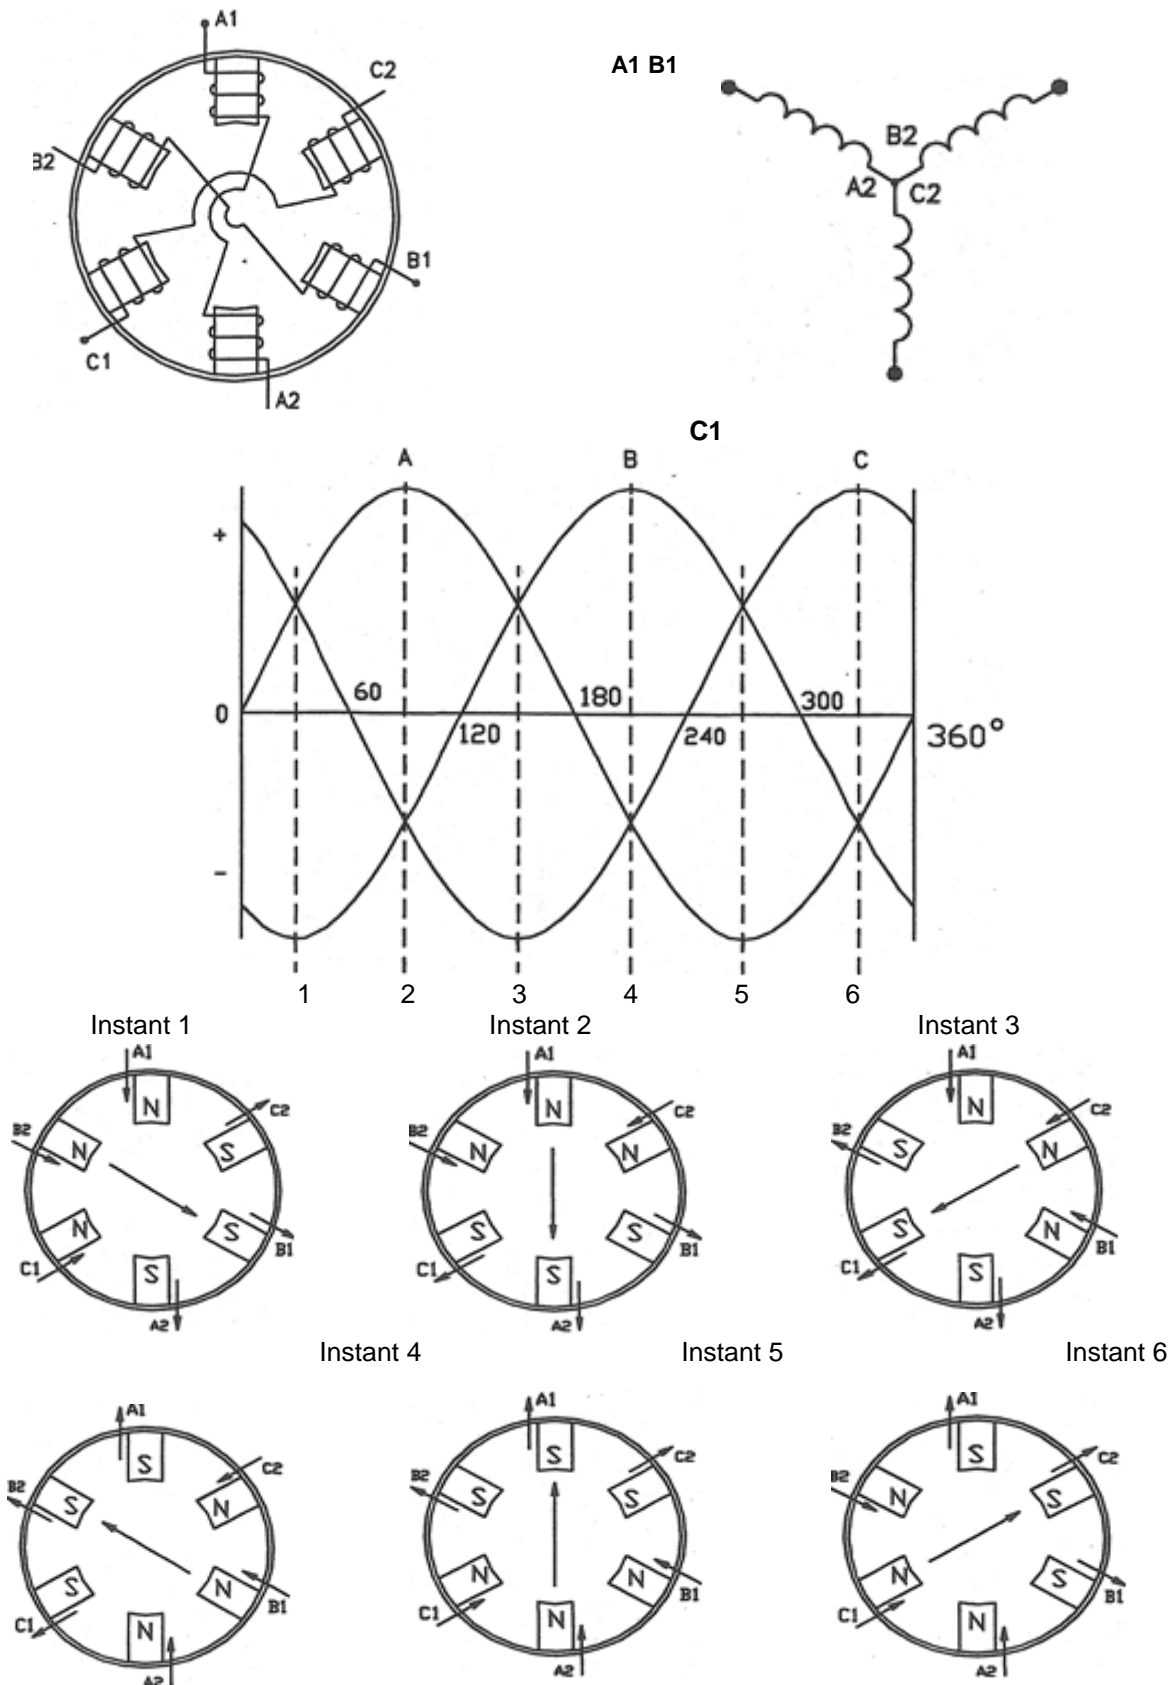

Figure 2 – Three phase rotating magnetic field
7. One method of showing how the rotating magnetic field is produced in a two pole three phase stator winding is shown in Figure 2. A simplified representation of the stator connections is shown beside one complete cycle of the line currents from a three phase supply. The portions of the sine wave above the horizontal axis are assumed to represent currents flowing into the winding, and the portions below represent current flowing out of the winding. The six numbered vertical lines indicate the instant in time depicted by the six diagrams of the stator which have corresponding numbers.